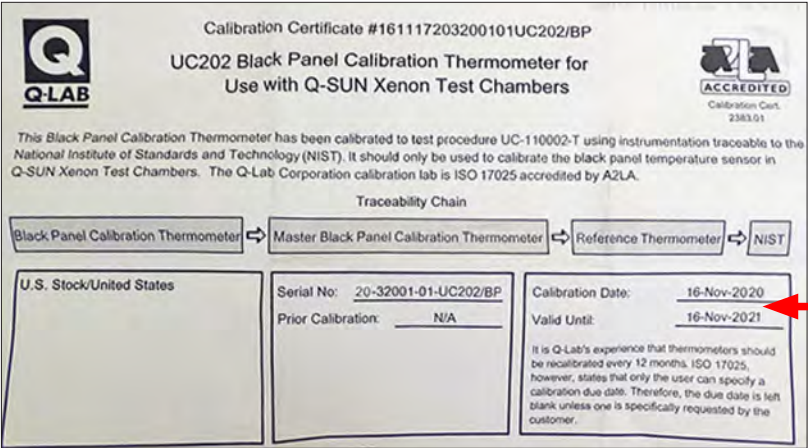

Figure 13.2b: UC202/IBP Temperature Smart Sensor with Insulated Black Panel (Black Standard)
- Use the UC202/IBP with insulated black panel (also known as "black standard"), Figure 13.2b.